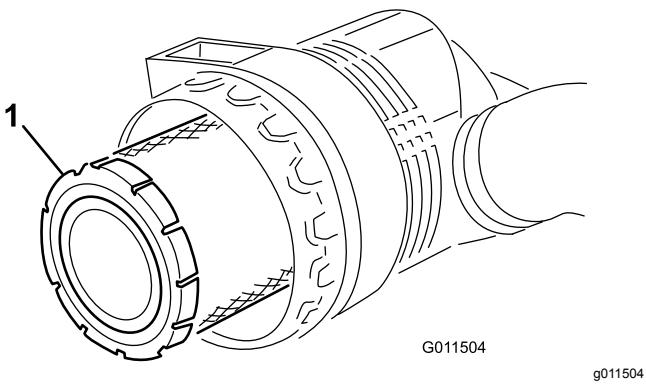

Figure 72
- Remove the primary filter (Figure 72). Cleaning of the used element is not recommended due to the possibility of damage to the filter media. Inspect the new filter for shipping damage, checking the sealing end of the filter and the
4. Replace the primary filter (Figure 72).